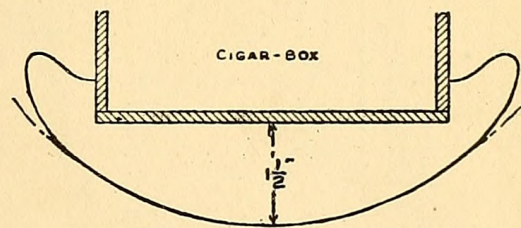

FIG. 237. — Pattern for Cradle Rockers.
**The Doll's Cradle** shown in Fig. 234. Cut the two rockers by the pattern in Fig. 237 and fasten them to the bottom of the box 1 inch from the ends. Use the rim of a breakfast plate in drawing the arc of the rockers.